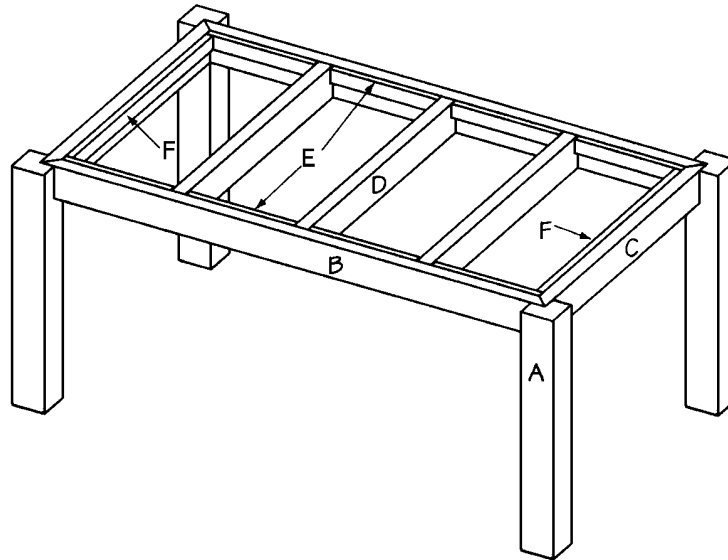

Figure 6
4. Fit one short inner support (E) flush with the top of the long side (B), between the short side (C) and the center support (D), as shown in *Figure 6*. Apply glue to the meeting surfaces, and screw through the short inner support (E) into the long side (B) using three 1-1/4-inch-
5. Cut two long inner supports (F) from 1 x 2 pine, each measuring 26-1/2 inches long.
6. Fit one long inner support (F) flush with the top of the short side (C), as shown in *Figure 6*. Apply glue to the meeting surfaces and use four or five 1-1/4-inch-long screws to attach each of these supports (F) to the short sides (C).